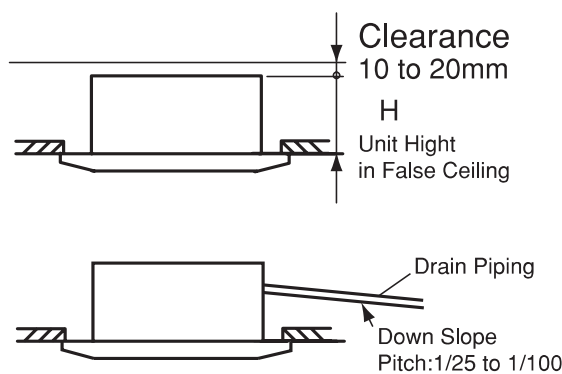

Fig. 3.2 Installation Location of Indoor Unit
- Select the installation location as follows Fig 3.2 :
- (A) Minimum Space
- (B) Down Slope Pitch of Drain Piping: 1/25~1/100